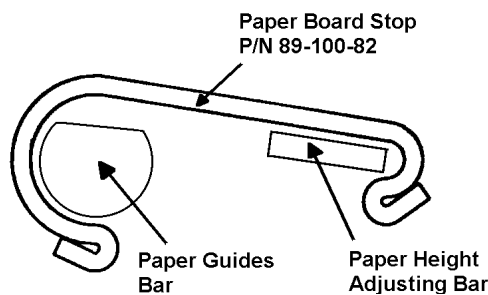

Figure 3
8. Install (P/N 89-100-82) Paperboard Stop to Paper Guide Bar [Figure 3]. This prevents paperboard from coming up and hitting Feeder.